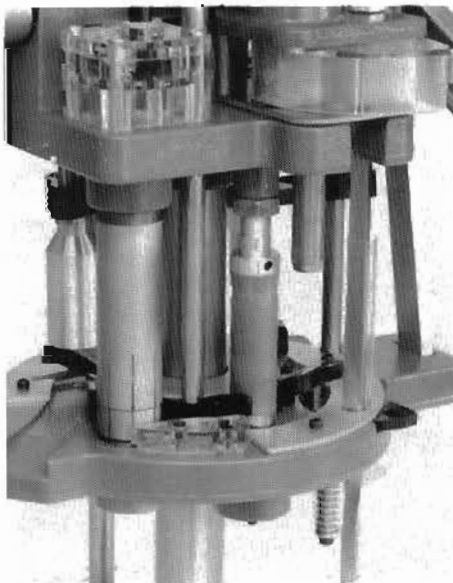

Fig. 76
**Figure 76** - With each stroke, the shellplate advances. It is important to always fully return the handle on the upstroke for full advance. The new primer is seated at the second station.